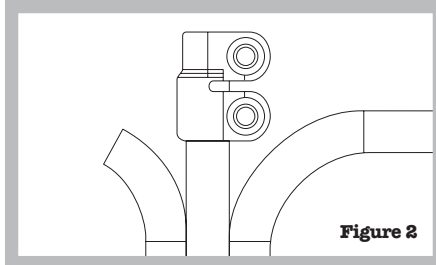

Figure 2
2. Install the left and right lower clamps onto the rack. The larger diameter end of the clamp fits over the bottom of the rack—grease the inside bore of each clamp, and use a mallet to tap each clamp onto the rack. (Figure 2) The counterbores should be facing the outside of the rack, and the slots of the clamps should line up with the slots of the rack.